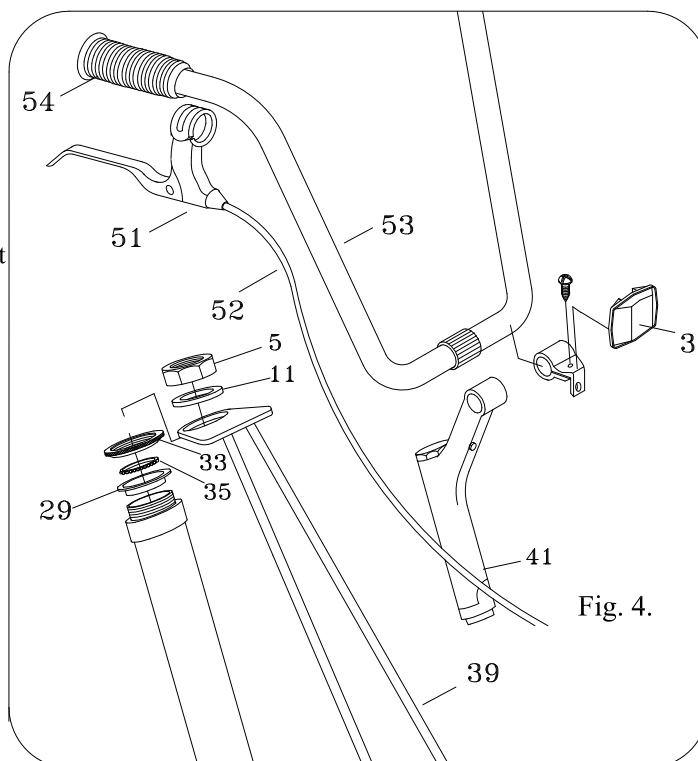

Fig. 4.
Place the handlebar (53) through the clamp on the stem (41), with the long bolt on stem to the rear of the handlebar. Attach the front clear reflector to the bracket found in the reflector bag. Slide bracket on left side of handlebar (see figure 4.) and tighten on position with the screw. Place stem into fork until the line marked on the stem is no longer visible. Align the handlebar to the fork, facing straight ahead and tighten bolt in stem firmly. Do not over tighten as this may damage the fork tube. Position handlebars to a comfortable position, tighten clamp nut.